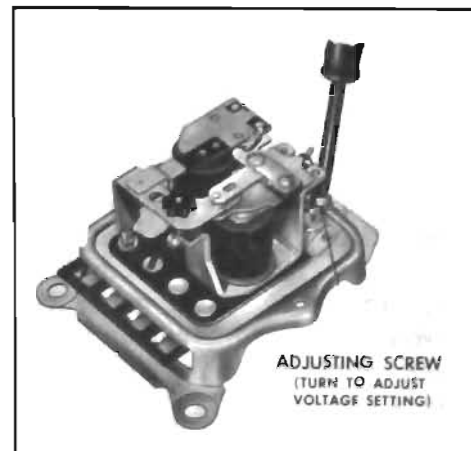

Figure 10-22—Adjusting Voltage Regulator Setting
6. With cover off, voltage reading will change considerably. Starting with the changed voltage reading, increase or decrease voltage (the amount determined in Step 5) as shown in Figure 10-22. CAUTION: Always make final adjustment by increasing spring tension to assure contact between screw head and spring support.